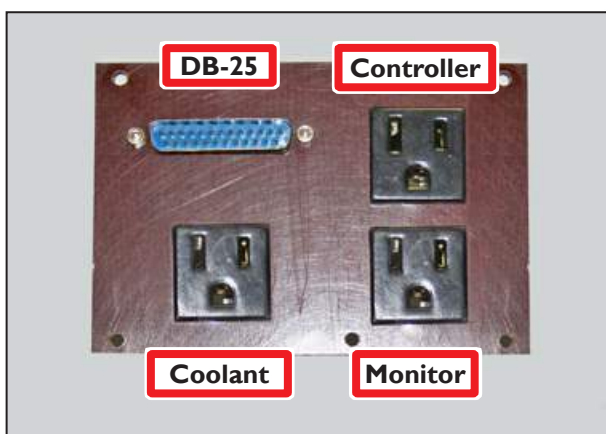
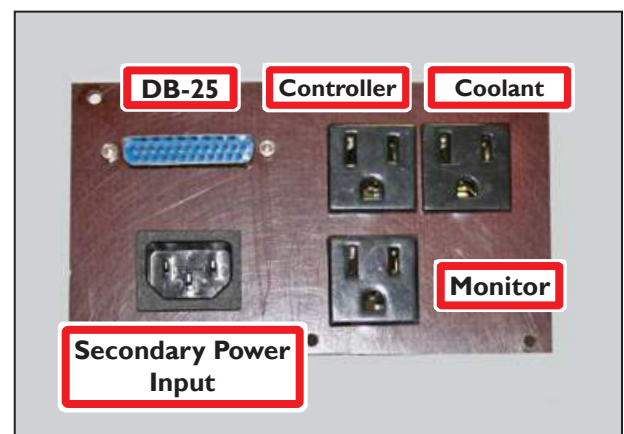

Figure 3.10
Figure 3.11
3. Plug controller, monitor, loose end of DB-25 interface cable (included), and secondary power cord (included with PCNC 1100 only) into *Power Connection Panel* (see **Figure 3.10** and **Figure 3.11**), located under the electrical cabinet.
The *Main Disconnect* switch, located on the right side of the electrical cabinet, is used to power the mill off and on (see **Figure 3.13**). When the *Main Disconnect* is switched to power *Off*, it disconnects the primary supply power to the mill. On the PCNC 1100, when the *Main Disconnect* is switched to power *Off*, it also disconnects the secondary supply power (to controller, monitor, and coolant outlets) from the *Power Connection Panel* (see **Figure 3.10**).